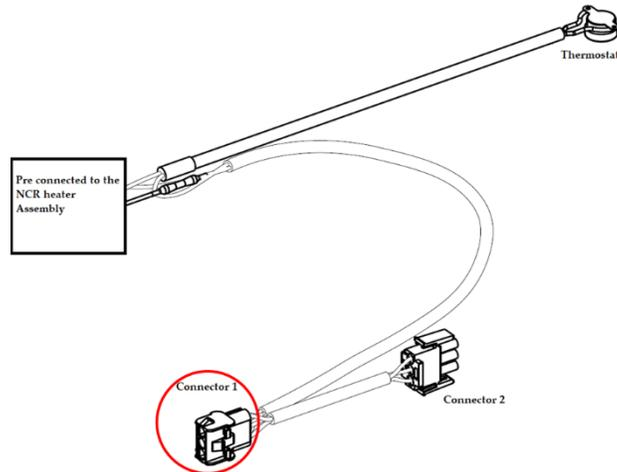
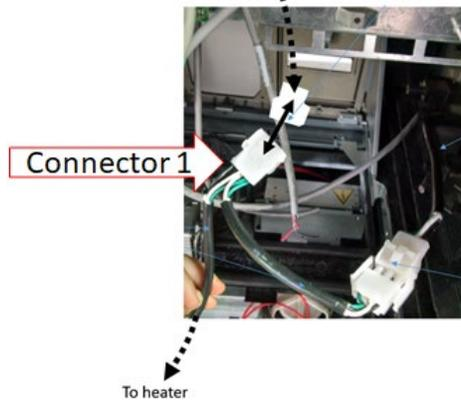

Figure 186
Figure 187
11) Attach Connector 1 (identified in Figure 186) to the NON-Invenco Link OPTIC power supply cable as shown in Figure 187.